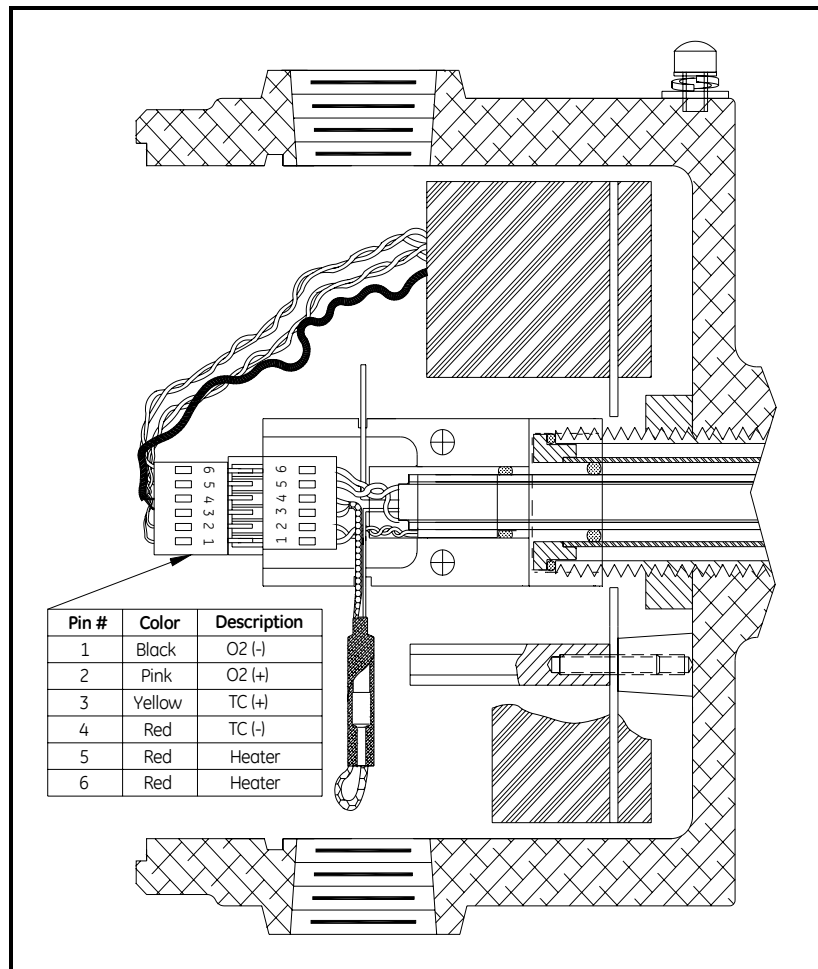

Figure 5-1: Sensor/Heater Connections
As an aid in following the troubleshooting procedures described in this chapter, the wiring connections for the FGA 311 sensor/heater sub-assembly are shown in Figure 5-1 below.
- a. Refer to Chapter 2, *Installation*, including the wiring diagram in Figure 2-3, and to Figure 5-1 on page 5-3. Make sure that all of the wires have been connected to the proper terminal blocks. Also, carefully inspect the wiring for shorts and be certain that all of the cable connectors are properly seated in their terminal blocks. Lastly, verify that each individual lead is still firmly seated in its connector.
- a. Remove the electrical connector from the end of the sensor/heater sub-assembly (see Figure 5-1 on page 5-3).